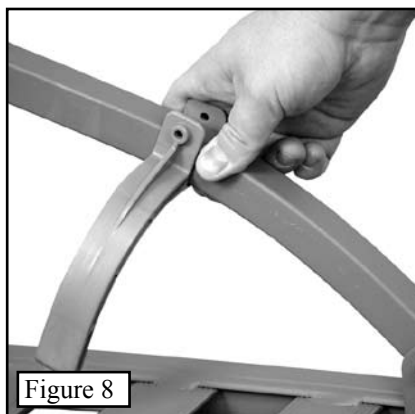
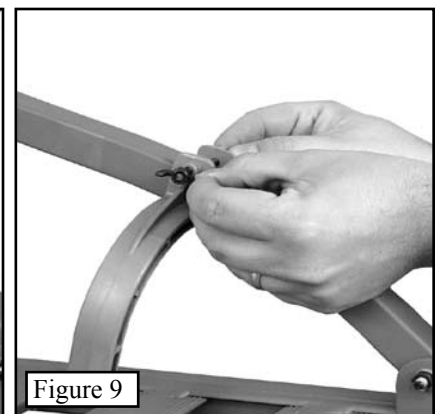
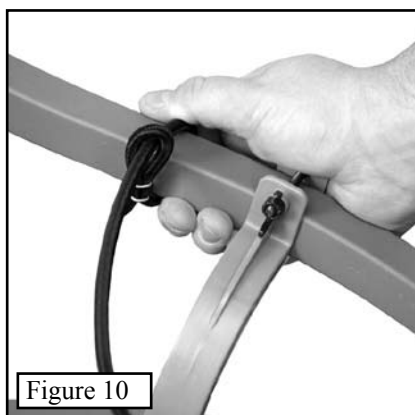
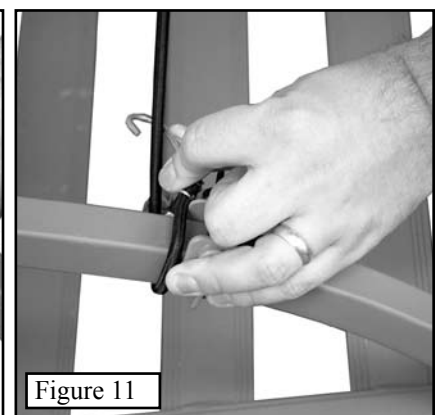

Figure 8
Figure 9
Figure 10
Figure 11
**RapidClimb Stirrups.** The two (2) RapidClimb stirrups fit on the curved upright arms of the platform. Simply slide one stirrup on each side of the platform so that they are on the inside of the platform and facing down as shown in *Figure 8*. Once positioned, secure with the bolt and wing nut provided as show in *Figure 9*. Occasional readjustment may be required as your footwear needs change. Wrap the supplied bungee cord around one side of the curved platform upright bars and push the S-hook through the loop as shown in *Figure 10*. Hook the S-hook around the opposite curved platform upright bar and back onto itself as shown in *Figure 11*.